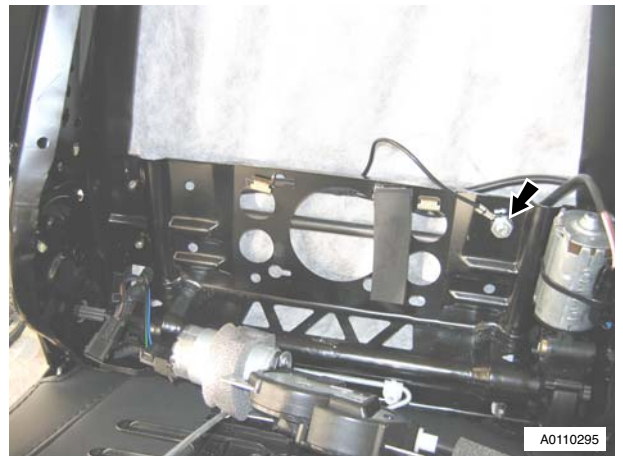

Figure 7
14. Remove earth header (nut and bolt) and release harness from clips (x2) (see Figure 7).